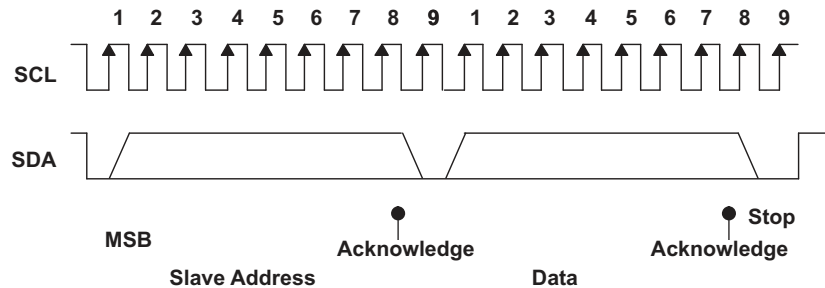

Figure 8. I2C Address and Data Cycles
- The master generates further SCL cycles to either *transmit* data to the slave ( $\overline{R/\overline{W}}$  bit 1) or *receive* data from the slave ( $\overline{R/\overline{W}}$  bit 0). In either case, the *receiver* must acknowledge the data sent by the *transmitter*. So, an acknowledge signal can either be generated by the master or by the slave, depending on which one is the receiver. The 9-bit valid data sequences consisting of 8-bit data and 1-bit acknowledge can continue as long as necessary (see Figure 8).